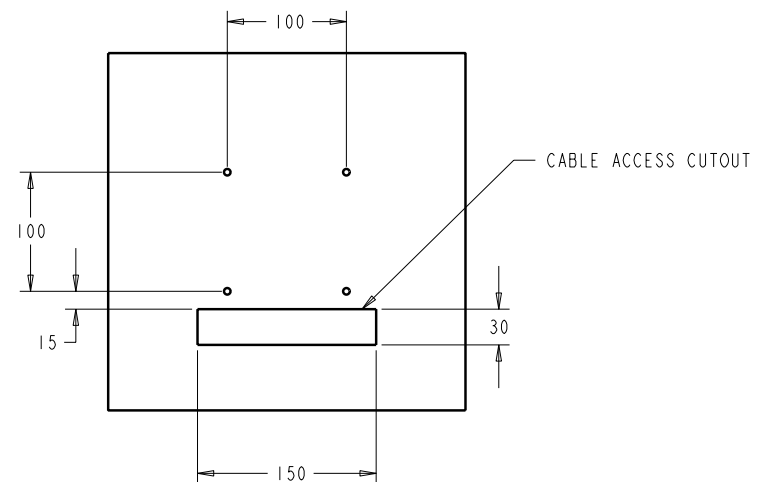

FIGURE 2: REAR MOUNT TEMPLATE
4. ROUTE CABLES THROUGH CUTOUT (IF APPLICABLE) AND MOUNT MONITOR TO WALL USING THE TEMPLATE PROVIDED IN FIGURE 2.